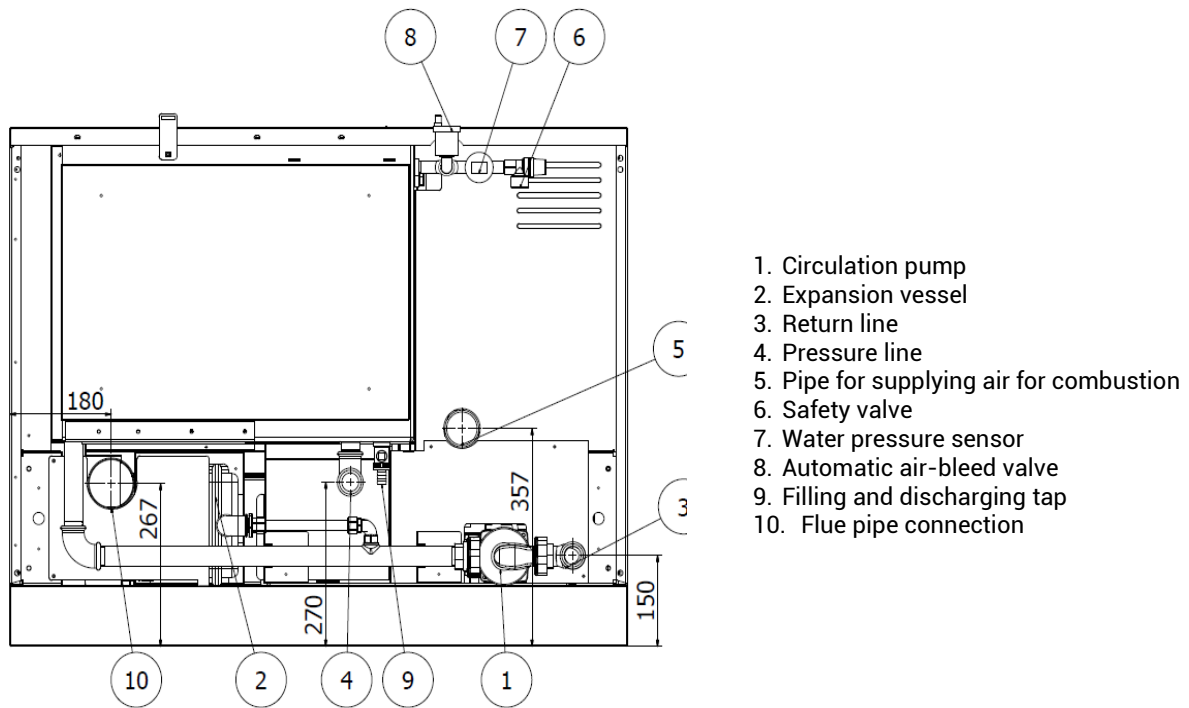

Figure 18
The back of the cooker with connections is given in Figure 18.
10.5. SAFETY VALVE (Figure 18, Position 6)
10.6. CIRCULATION PUMP (Figure 18, Position 1)
10.7. AUTOMATIC AIR-BLEEDING VALVE (Figure 18, Position 8)
10.8. EXPANSION VESSEL (Figure 18, Position 2)
10.9. TAP FOR FILLING AND DISCHARGING (Figure 18, Position 9)
10.10. WATER PRESSURE SENSOR (Figure 18, Position 7)